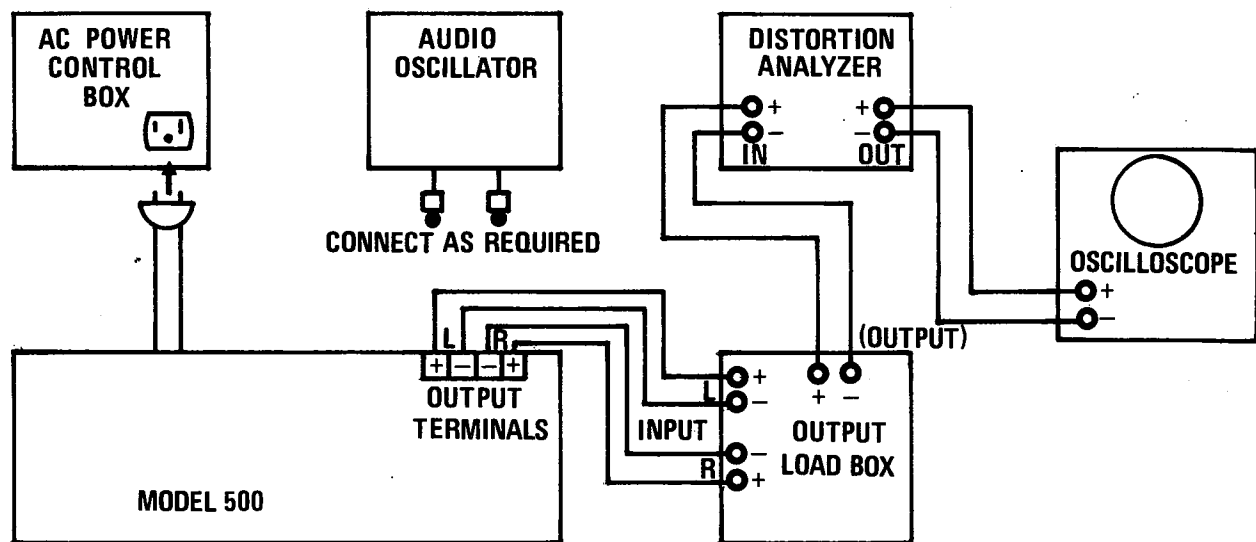

Figure 6. Test Equipment Set-Up
Above items to be assembled per Figure 6 or as directed in Test or Adjustment Procedures
1. All tests are performed with the unit under test and the test equipment connected as shown in Figure 6. Only the rear panel input/output connection facilities of the Model 500 will be used for these tests. Except for the IDLING POWER test, all tests are conducted with 120 VAC line voltage applied to the unit. Unless otherwise specified in the procedure, the test equipment controls will be set in the following position: